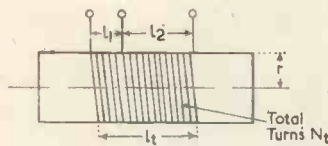

Fig. 1. A tapped coil
Referring to the tapped coil shown in Fig. 1, the inductance of the complete coil ( $L_t$ ) and its parts ( $L_1$  and  $L_2$ ) may be determined from (1) and from these results mutual inductance may be calculated as follows.